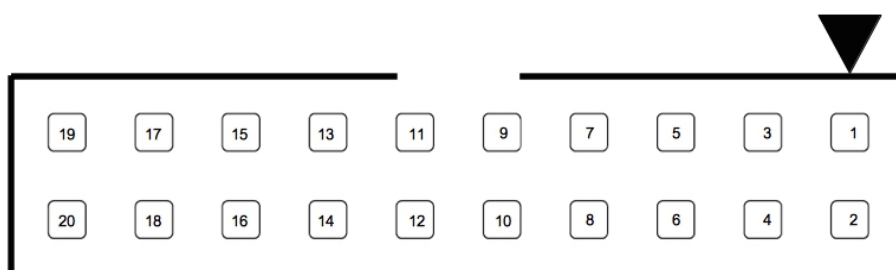

Figure 5.8.: S-2 back pin-out. The position of pin 1 is marked by a triangle on the top of the connector.
- The STC-3 cable is available to connect the back of the driver to the TC-3 controller. This cable is split with three ends: a DB 15 connector contains the temperature controls, an RS232 cable contains the computer communication signals, and finally a coupling socket is used for power transmission. The STC-3 cable pins and configuration are shown in fig. 5.9. It should be noted that the STC-3 cable does not give access to all the S-2 functionalities. An RS-232 to USB converter, which might be needed for connecting the board to a computer without hardware RS-232 port, is also available with drivers for Windows, Mac OS and Linux. Also the S-2 pulser is available in OEM configuration without any cables; in this case the driver can be controlled directly from the pins shown in fig. 5.8 and table 5.4.
Pins 2 and 4 provide an RS-232 serial interface to the pulser (see Fig. 5.8). The RS-232 connector of the STC-3 cable connects to the serial port of a computer (Mac, Windows, or Linux).